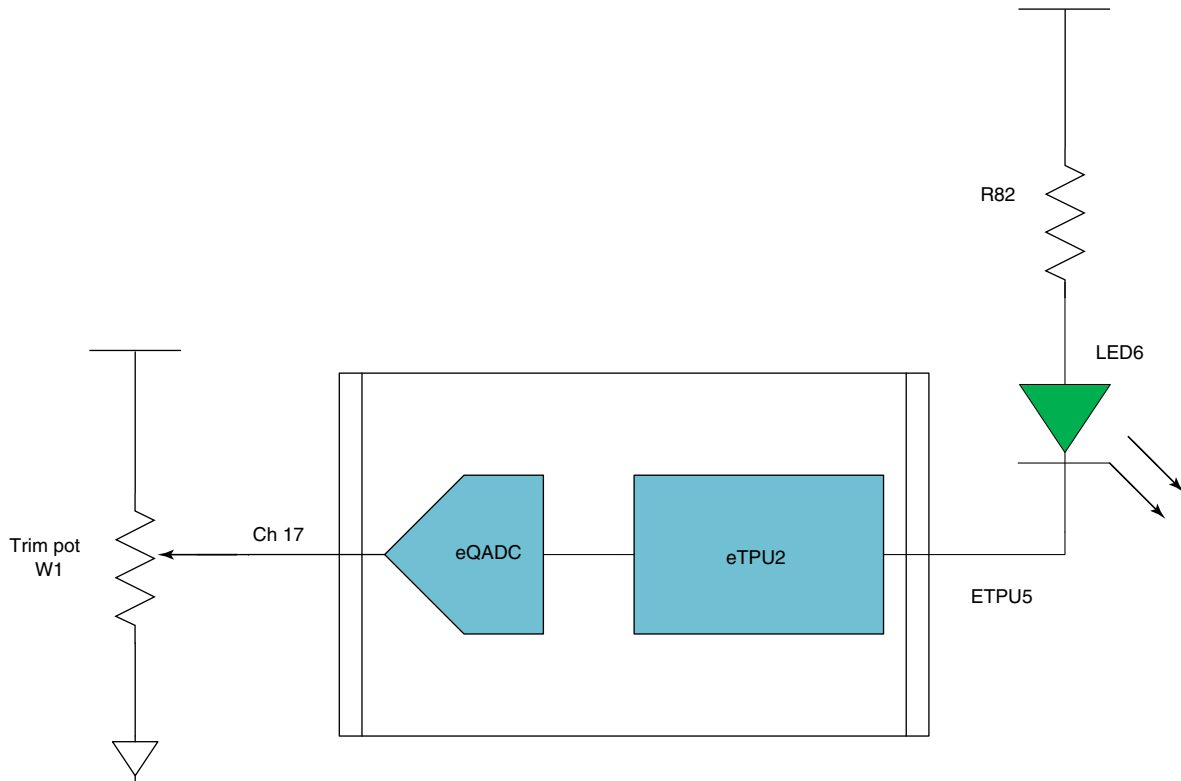

Figure 1. PWM-controlled LED dimmer
This application note uses the eTPU2 PWM driver from the eTPU2 general function set (Set 1, a set of eTPU(2) functions taken from Freescale application note AN2865, "MPC5500 & MPC5600 Simple Cookbook") to demonstrate an open-loop LED dimmer control system. The system, as shown in Figure 1, consists of: